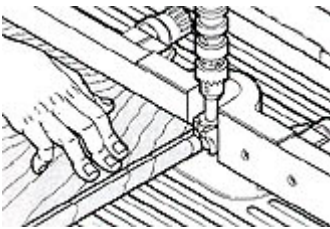

Fig. 2 Cut in the Drop Leaf joints before the edges of the top are shaped.
3. To cut in the Drop Leaf joints (Fig. 2) before the edges of the table are shaped, use the Drop-Leaf joint shaper cutters, Drop Leaf Bead Cutter & Drop Leaf Cove Cutter, and slowly ease it into the stock - about 1/4" each pass. This two-knife set requires that one be raised from underneath and one be lowered onto the workpiece.